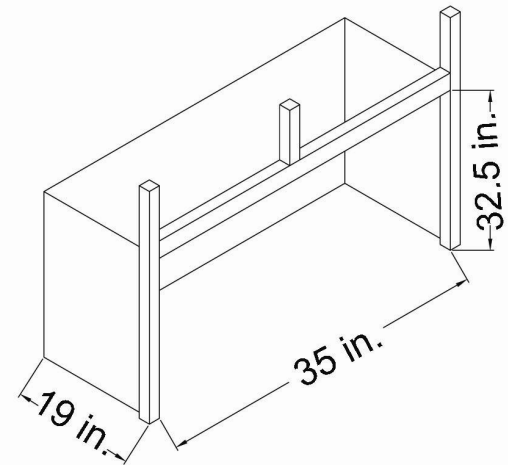

Figure 7 - Rough Opening for Installing in Wall
1. Frame in rough opening. Use dimensions shown in Figure 7 for the rough opening. If installing in a corner, use dimensions shown in Figure 8 for the rough opening. The height is 23 1/4 in., which is the same as the wall opening above.